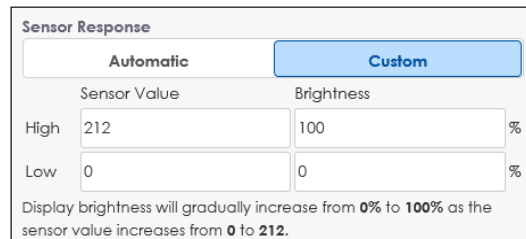

Figure 56: Peripherals - Sensor Response
4. Set the **Sensor Response** to **Automatic** or **Custom**. Refer to **Figure 56**.